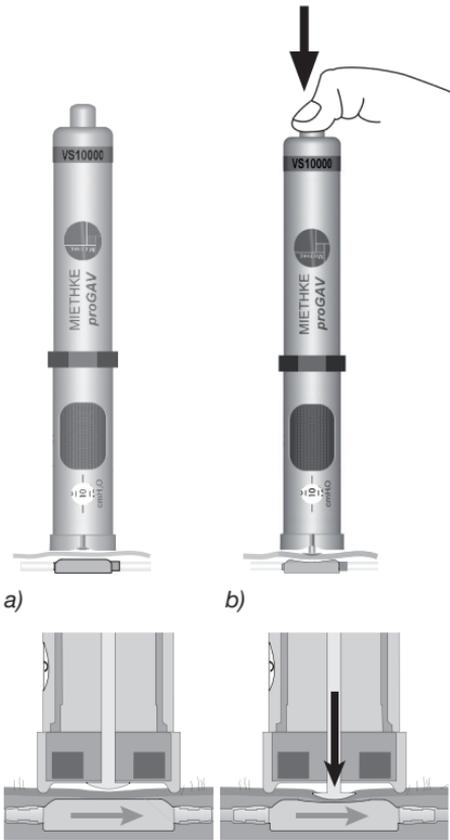

Fig. 16: Adjusting the pressure setting
5. As soon as the adjustment tool has been positioned centrally on the valve, the button is pushed onto the valve and the adjustment tip appears. This triggers the mechanical decoupling and the valve setting is adjusted to the required opening pressure setting (fig. 16)